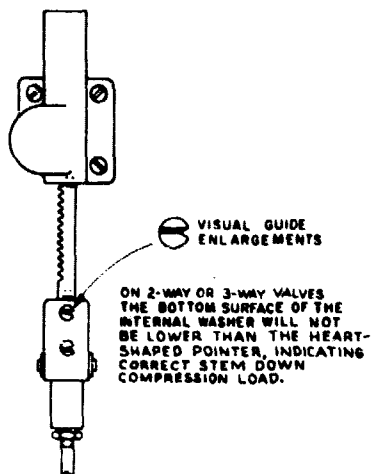

Fig. 7 - Properly assembled linkage will have the visual guide in the position shown.
15. Re-apply 24 V. A.C. power to terminals 2 and 7 until motor stops. See Figure 7 for visual means to denote properly assembled units.